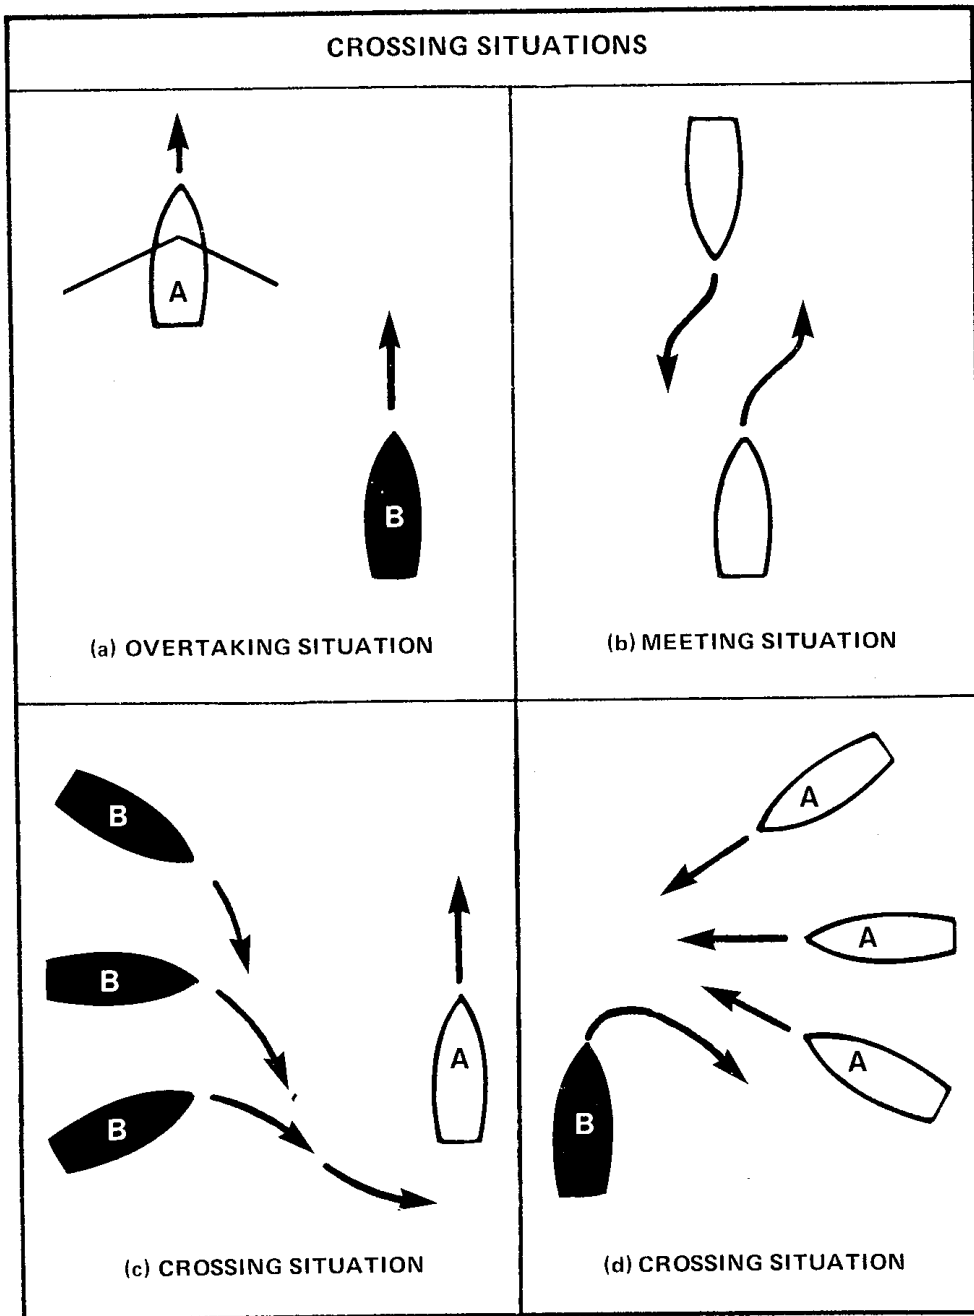

Figure 7-41 Crossing Situations
- f. **Powerboats in Crossing Situations** — Vessels are on **crossing courses** when they are approaching each other at **right angles** or **obliquely** other than when one vessel is overtaking another. Figure 7-41 describes the several situations, both boats being powered. At (a) is an **overtaking** situation. At (b) is a **meeting** situation and at (c) and (d) are **crossing** situations. There are different crossing rules in different waters.
In other words, the vessel with the other on her starboard side is the **give-way** vessel. The other vessel is the **stand-on** vessel and maintains her course and speed. Figure 7-41 (c) and (d) illustrate various crossing situations where this rule applies. There **are** differences in the Great Lakes and International rules, but these apply to the **sound signals** required of vessels when crossing, which will be discussed in paragraph 114, below.